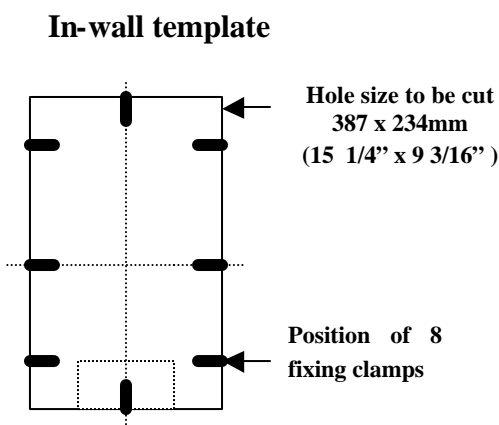

Fig 3
1. Secure template in position. Please note that the outer profile indicates size of cut-out. Fig 3. The adhesive backing allows for repositioning a number of times.